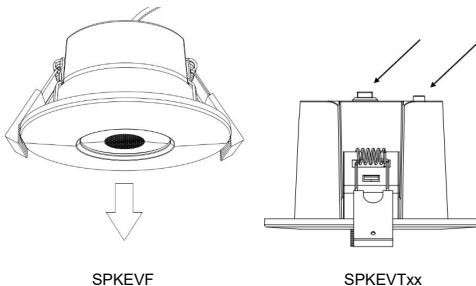

Fig. 4
- Select the required wattage and colour temperature: on the SPKEVF the switches are accessed beneath the magnetic bezel; on the SPKEVTxx the switches are on the rear of the luminaire (see Fig. 4)